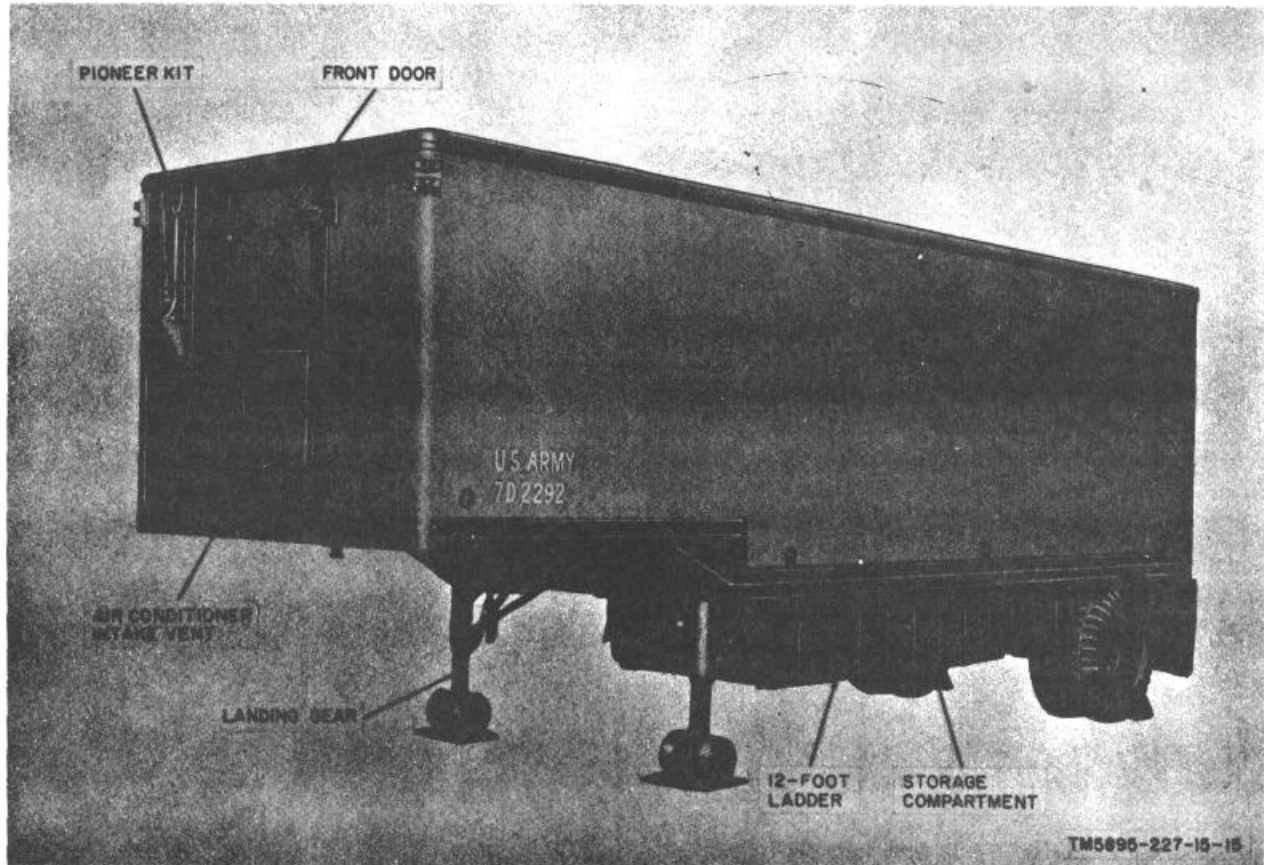

Figure 7. Operations Center, Communications AN/MSC-25, exterior front and roadside view.
The components of Operations Center, Communications AN/MSC-25 (para. 5 and 6) are housed in Semitrailer, Van, Electronic Equipment V-189/MSC-25 (figs. 7 and 8). External connections to the van are made at the SIGNAL ENTRANCE PANEL (signal entrance box) or the POWER ENTRANCE
a. *Semitrailer, Van, Electronic Equipment V-189/MSC-25* (figs. 7 and 8). The van is the component of the AN/MSC-25 in which all other components (para. 5 and 6) are installed. The van is divided into front and rear compartments by the front partition wall (figs. 14 and 15); each compartment has its own entrance door. A speaking tube is provided for communication between compartments. The front compartment is used chiefly as a storage area and the air-conditioned rear compartment, as the work area. A safe and file cabinet, equipped with a combination lock, and an air conditioner are mounted in the front partition wall. A lighted vestibule to the rear compartment is formed by a wall partition and an accordion blackout door (fig. 18). Lighttight vents for the air conditioner and the exhaust blower are on the outside wall. All equipment racks and mountings, ac power receptacles, and signal wiring required for mounting and operating the AN/MSC-25 components are installed in the van. Storage areas and installed mounting fixtures are provided for running spares and accessory items. The van can be moved by a tractor or transported by cargo aircraft and is fully insulated and weatherproofed.